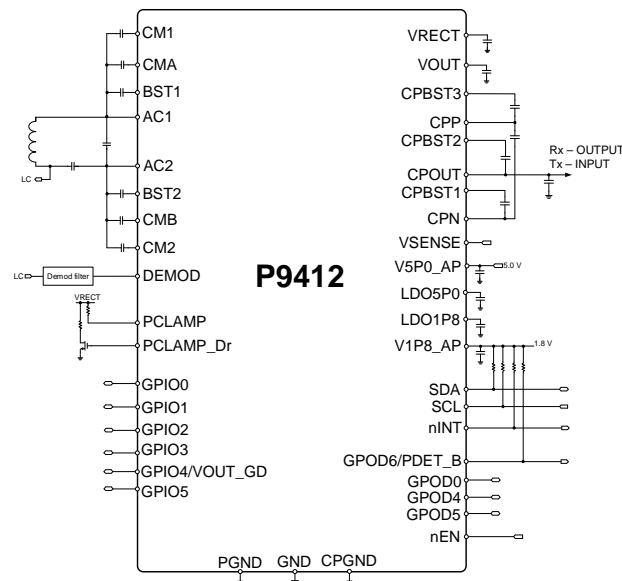

Figure 1. P9412 Block Diagram
| Figure 1. P9412 Block Diagram..... | 2 |
The P9412 wireless power TRx (receiver and transmitter) with Wattshare™ technology is an integrated circuit (IC) consisting of multiple high power blocks along with noise sensitive circuits all controlled by a micro-processor (see Figure 1).